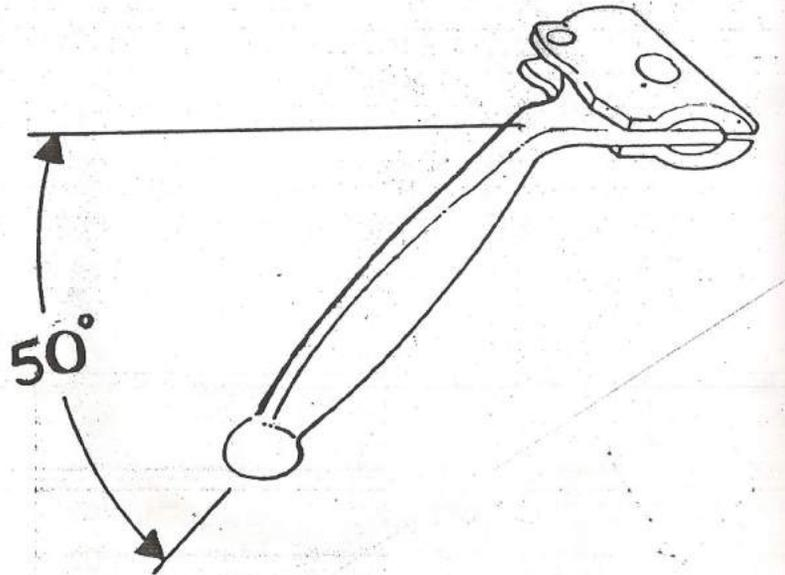

Fig. 1-5
- A) Bend the brake levers down as shown. The best way is to hold the upper part of the lever in the vise, heat the bend area with a propane torch, and hit the end with a rubber mallet. Remember, the right and left sides are opposite (See Fig. 1-5).